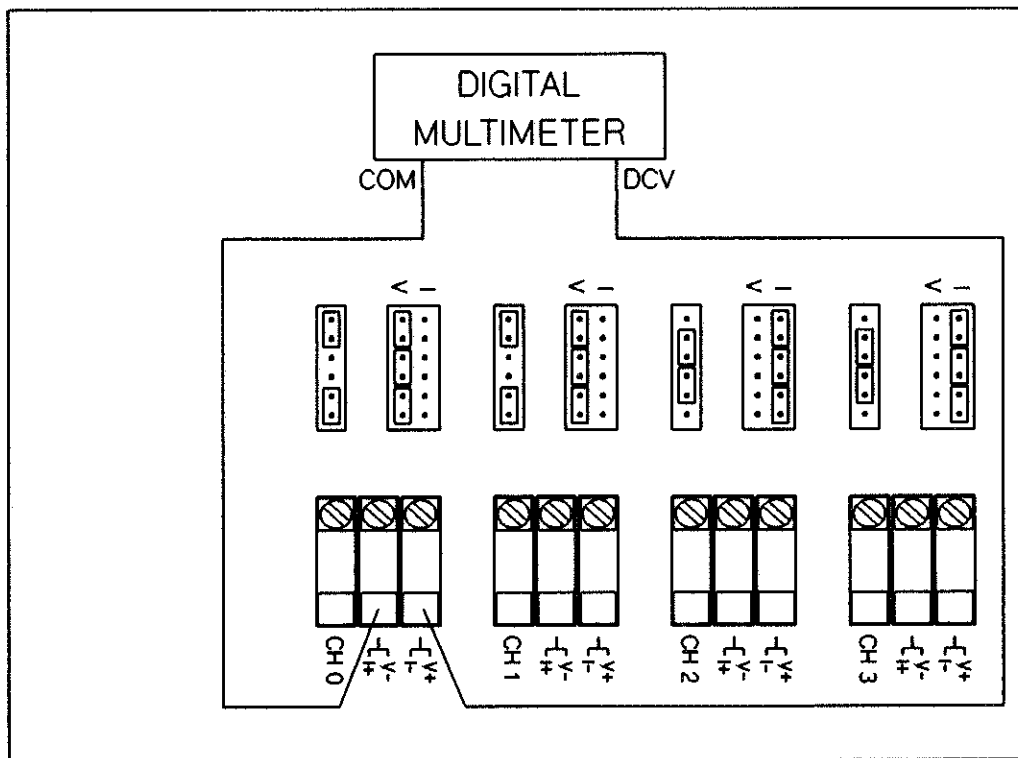

Figure 15-19 Voltage Calibration Connections
2. Set the multimeter to measure dc volts. On the terminal module, connect the multimeter DCV input to the V+ connection and connect the COM input to the V- connection of the channel to be calibrated. The connections are shown in Figure 15-19.
In Figure 15-19, Channels 0 and 1 are configured for voltage, and Channels 2 and 3 are configured for current. Use Channels 0 and 1 jumper configuration for voltage calibration